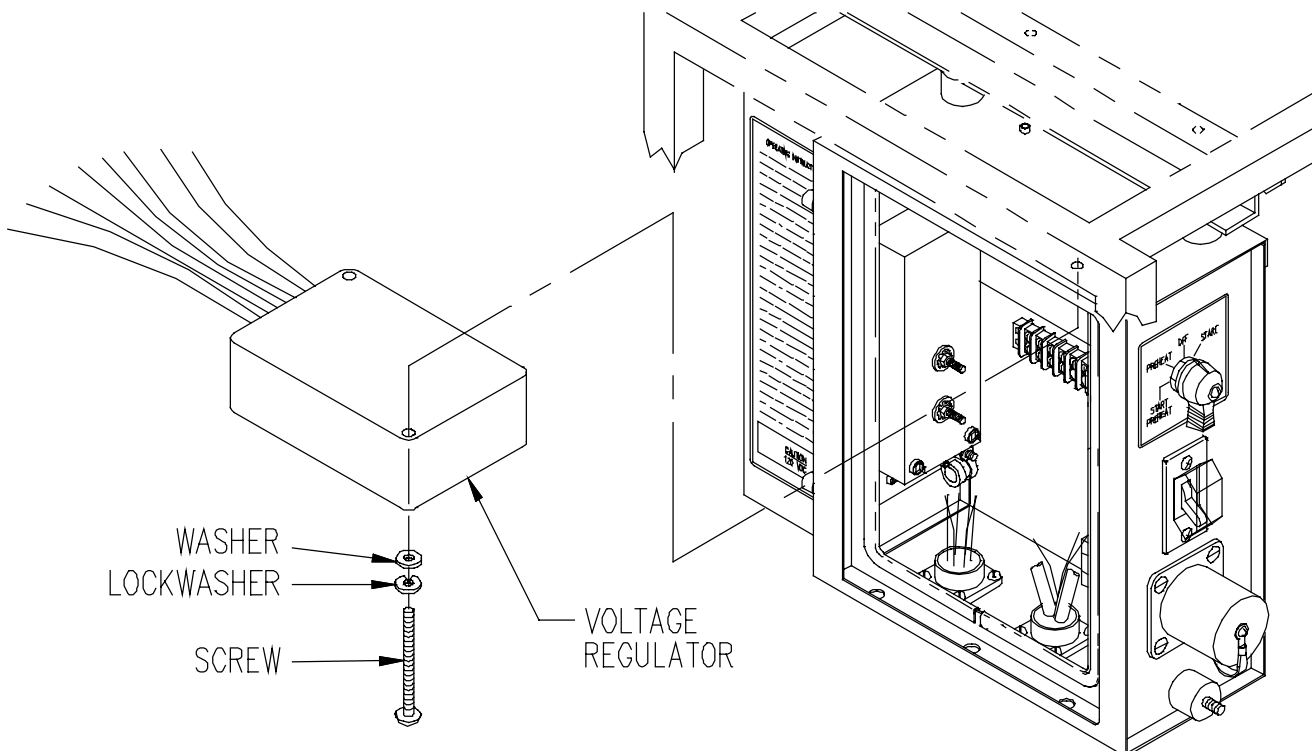

Figure 5-2. Voltage Regulator Assembly (MEP-531A)
(1) Shut down generator set.
(2) Release instrument panel by turning fastener, open instrument panel slowly.
(3) Tag and disconnect electrical leads for voltage regulator (Figure 5-2) from terminals of terminal board TB1.
(4) Remove screws, lockwashers, washers, and voltage regulator from control panel.